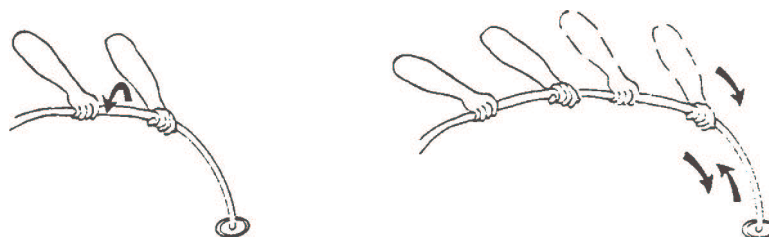

FIG. 6
13. If the water jet hose fails to advance, it may be necessary to pull off additional hose and twist the hose in a corkscrew-like manner (see Fig. 6).